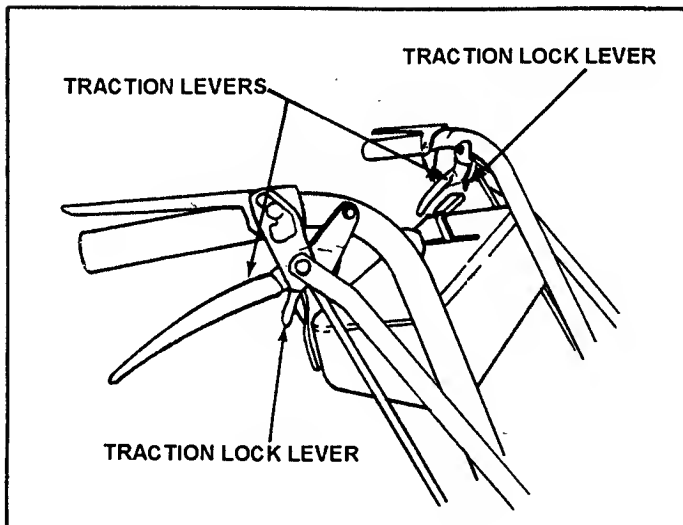

FIGURE 15
- b. Pull the Blade Clutch Switch backward to the **OFF** position. See Figure 15.
- 7b. **PISTOL GRIP - TO STOP MOWER**, simultaneously squeeze both Traction Levers firmly against the handle while pulling the Traction Lock Lever rearward with index finger until latched. See Figure 15